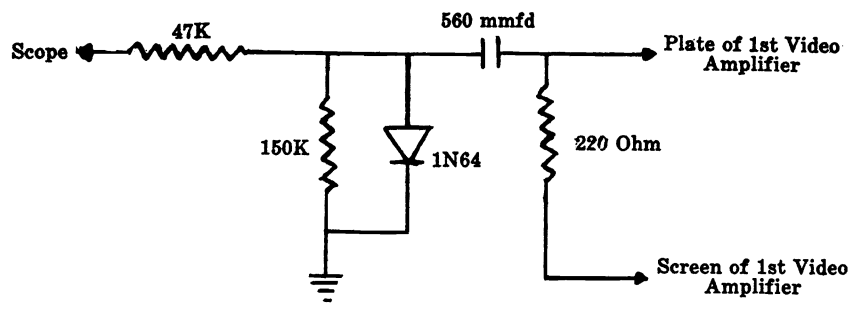

Figure 3
13. After adjustment of the fine tuning setting, connect the scope, through the detector circuit shown in Figure 3 to the first I.F. Amplifier. Now short Pin 5 to Pin 6 (plate to screen) on V202 the second I.F. Amplifier tube.